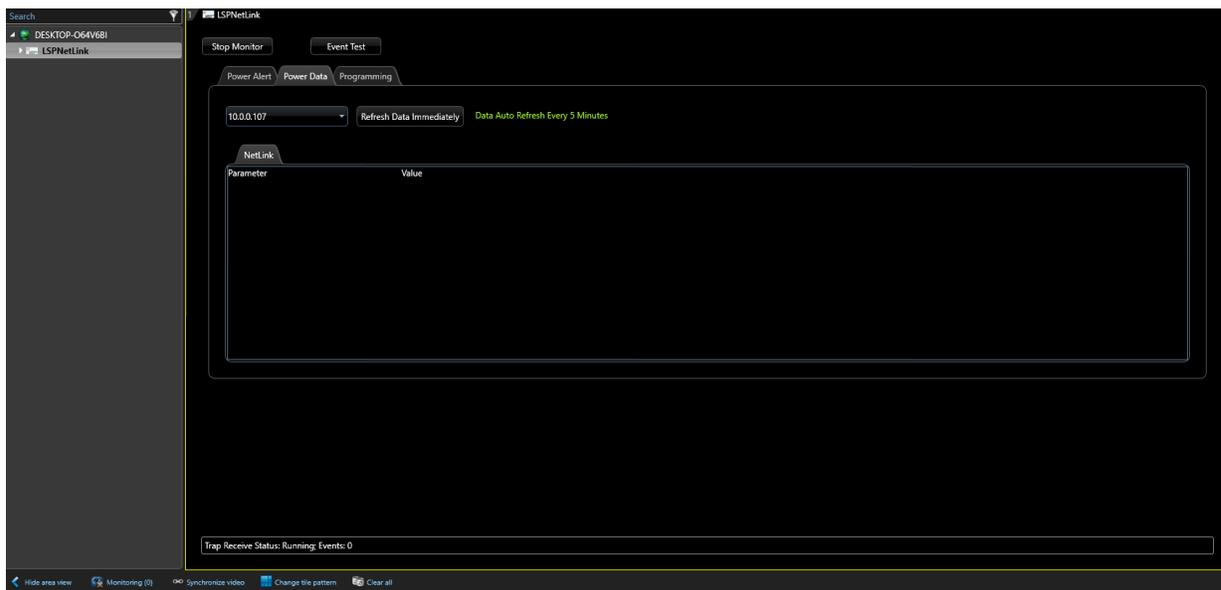

Figure 37
1. Before receiving SNMP data for the first time, only the NetLink tab will be shown with an empty parameter table. (Figure 37)